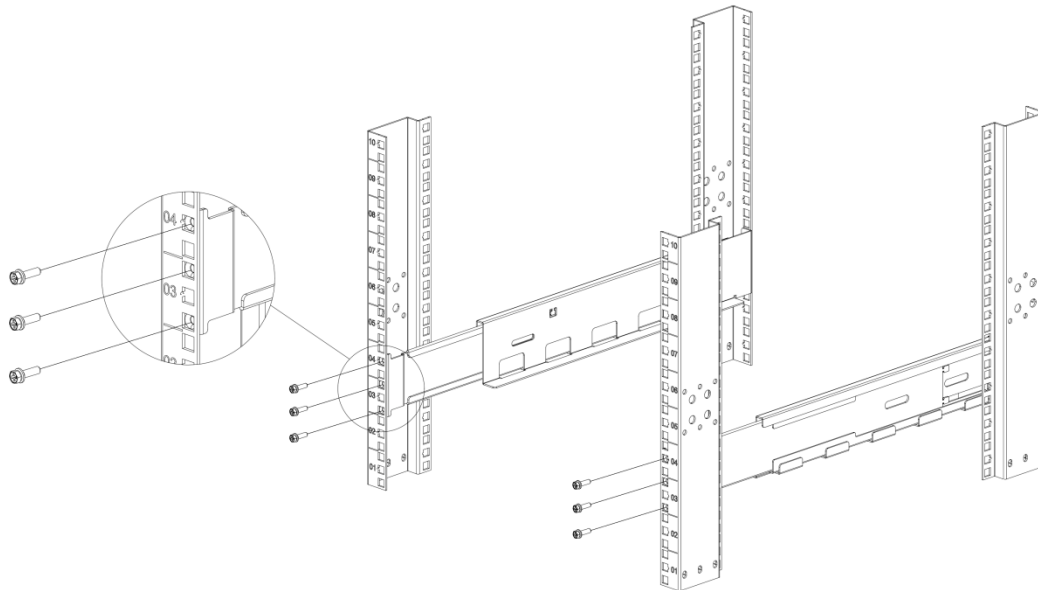

Figure 39: Install the Rear Side of Rails
33. Assemble the rear side of the rail kit with 3x Phillips Pan Head M5 screws (see Figure 39) on each rail.